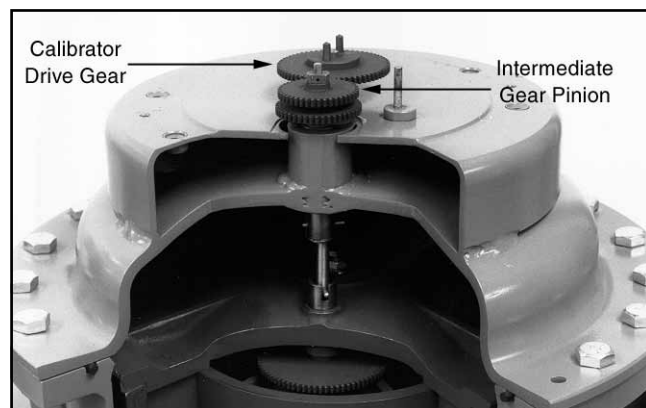

Figure 11 – Model E3-S1, Counter-Clockwise Rotation
1. Reverse rotation by removing and reversing the location of the jackshaft pinion gear and the intermediate gear pinion as noted in Figure 11.